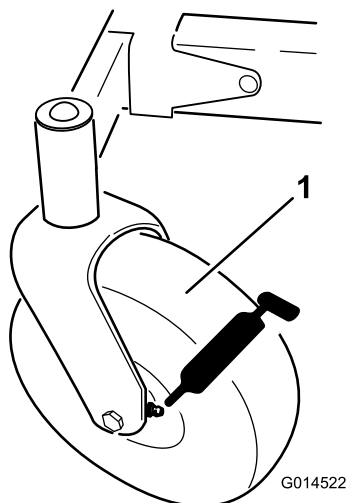
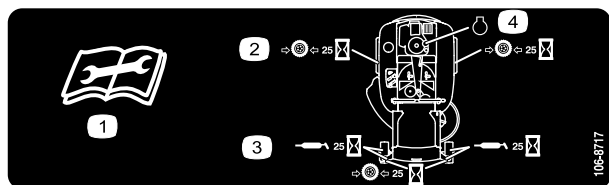

Figure 25
Figure 26
- Clean the grease fittings (Figure 25 and Figure 26) with a rag. Make sure to scrape any paint off of the front of the fitting(s).
- Connect a grease gun to each fitting (Figure 25 and Figure 26). Pump grease into the fittings until grease begins to ooze out of the bearings.